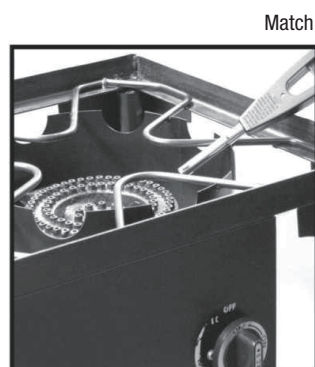

Figure 4
- 7 If lighting does not occur in 5 seconds, turn burner control knob "OFF," turn down the air damper and repeat lighting procedure. (figures 4 and 5)